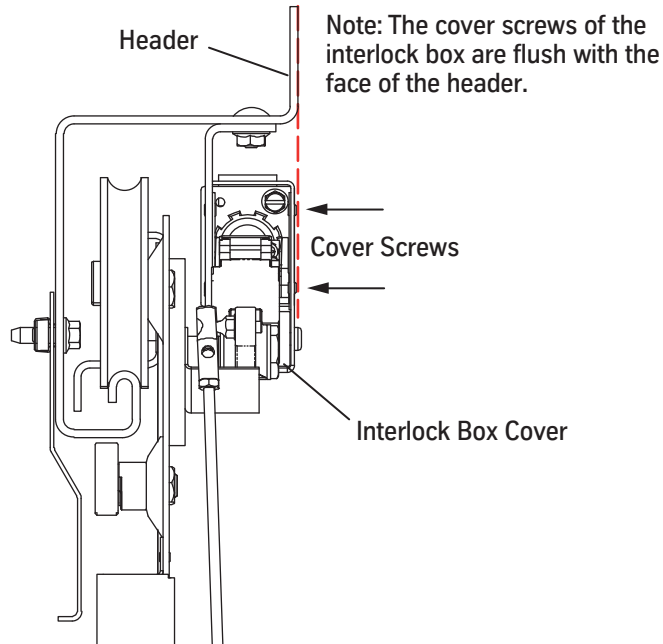

Figure 18 - Install the Door Interlock
1. Install the interlock contact box. Evenly align the cover screws with the face of the header. See Figure 18.